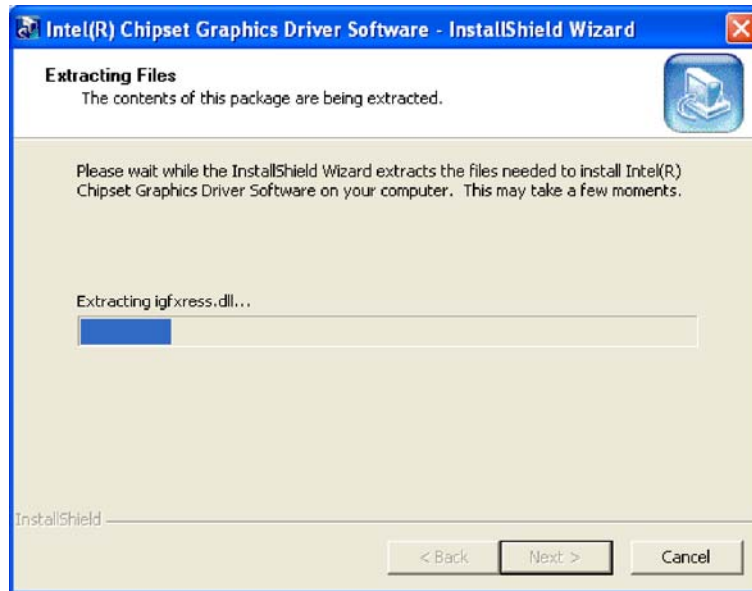

Figure 7-10: VGA Driver File Extraction
Step 5: Click **NEXT** to begin extracting files (Figure 7-10).